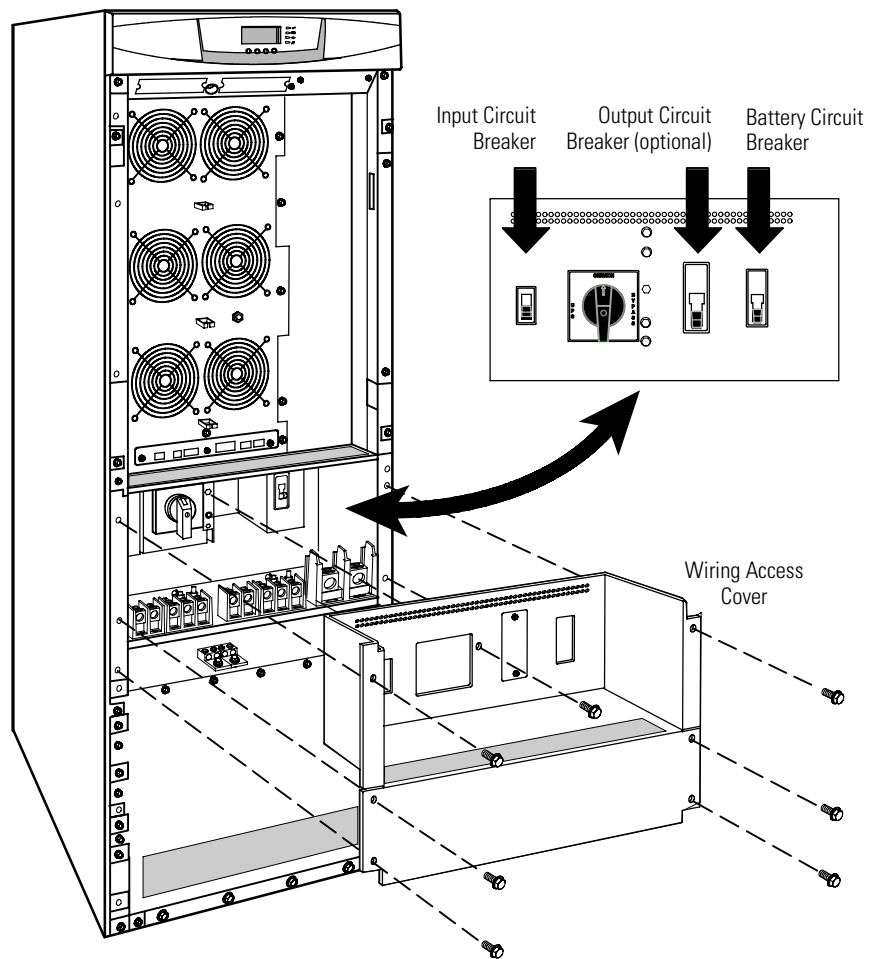

Figure 5. UPS Front View
12. Verify that each UPS battery circuit breaker is in the OFF position (see Figure 5).